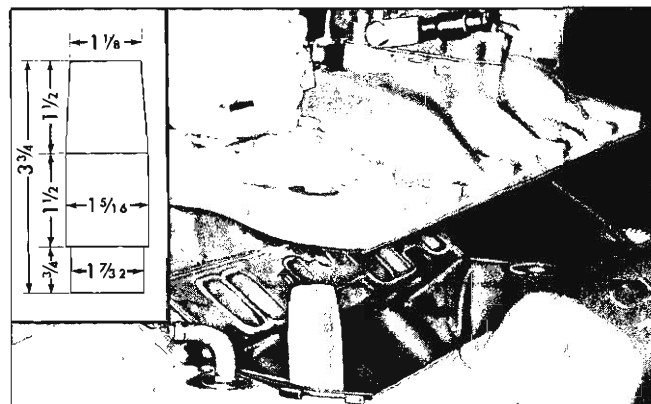

Fig. 4V—Installing Manifold (Using Pilot Tool)
**NOTE:** When installing the intake manifold, any sliding to align bolt holes may roll the end seals out of position. A pilot (wood or metal) used in distributor opening can be made to help install the manifold squarely. Dimensions of pilot shown in Figure 4V.